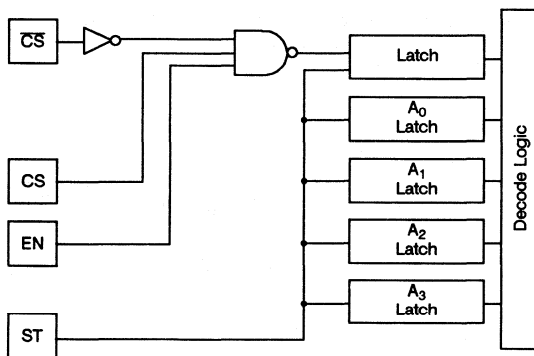

Figure 12. \overline{CS} , CS, EN, ST Control Logic
All four address inputs have on-chip data latches which are controlled by the Strobe (ST) input. These latches are transparent when Strobe is high but they maintain the chosen address when Strobe goes low. To facilitate easy microprocessor control in large matrices a choice of three independent logic inputs (EN, CS and \overline{CS}) are provided on chip. These inputs are gated together (see Figure 12) and only when $EN = CS = 1$ and $\overline{CS} = 0$ is true can an output switch be selected. This necessary logic condition is then latched-in when Strobe (ST) goes low.